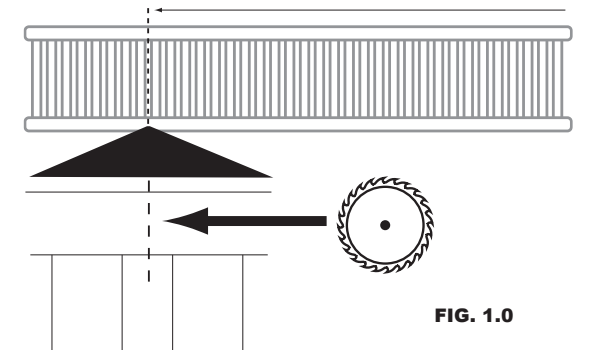

FIG. 1.0
Shelf lengths and Wardrobe Bars may need to be cut depending upon configuration desired. Please refer to Fig. 1.0 for recommended cut location.
4. Using the length measurements for the (A) shelves and (B) wardrobe bars obtained from your selected configuration (refer to selected configuration layout), measure and cut (A) shelves and (B) wardrobe bars to length. (See Fig. 1.0 for recommended cut location). (Note: Cut at center of line during shelf cut. If cut location lands on a shelf slat, cut at the closest slat opening near line).